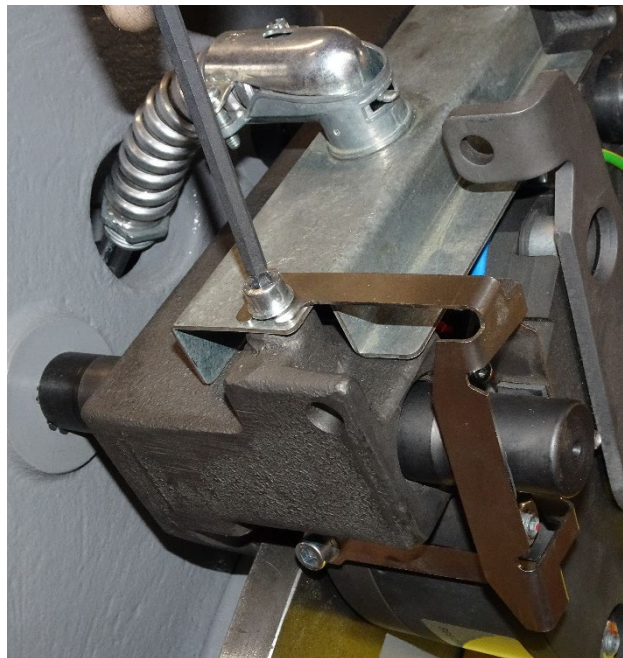

Figure 36
4. Remove the brake centering device (5mm hex key) if so equipped (Figure 36).